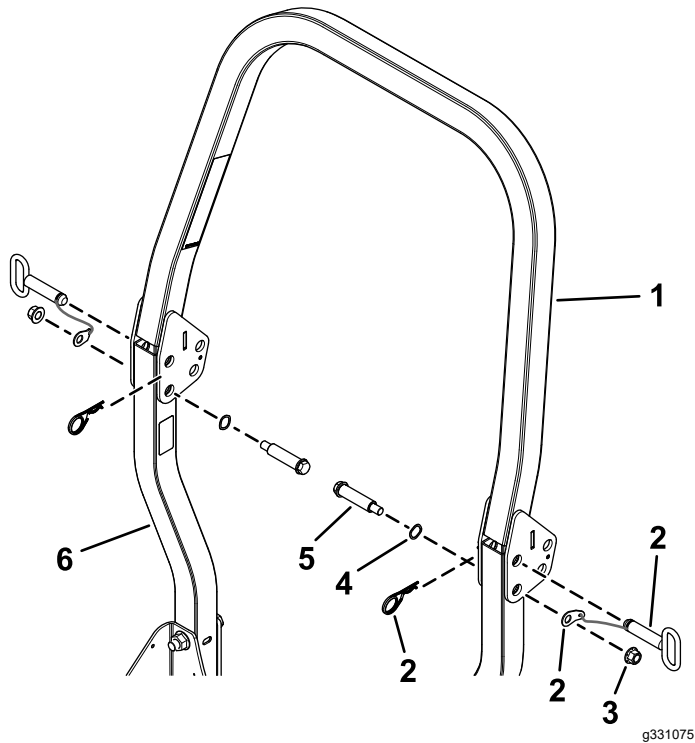

Figure 3
3. Secure the lower roll bar assemblies to the upper roll bar assembly using the 2 shoulder bolts, 2 wave washers, 2 locknuts (1/2 inch), and fold-pin assembly (Figure 3).